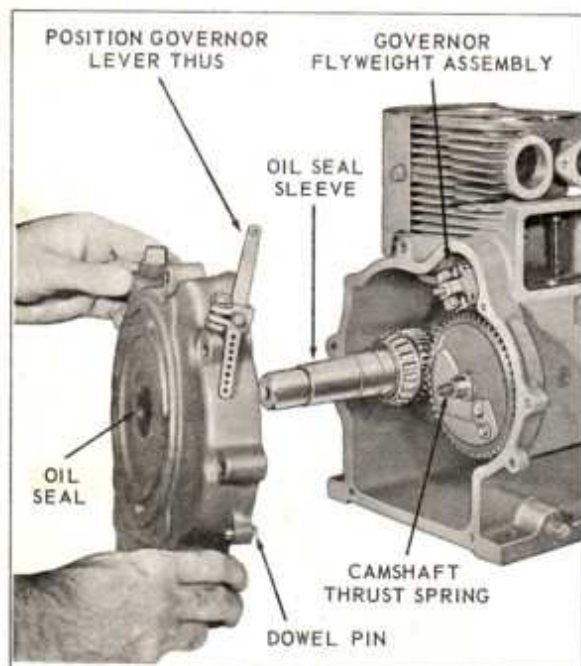

Fig. 30
**Note:** Governor lever must be leaning in a direction toward the engine, as shown in Fig. 30. This position will prevent the internal governor vane from becoming entangled with the governor flyweights.